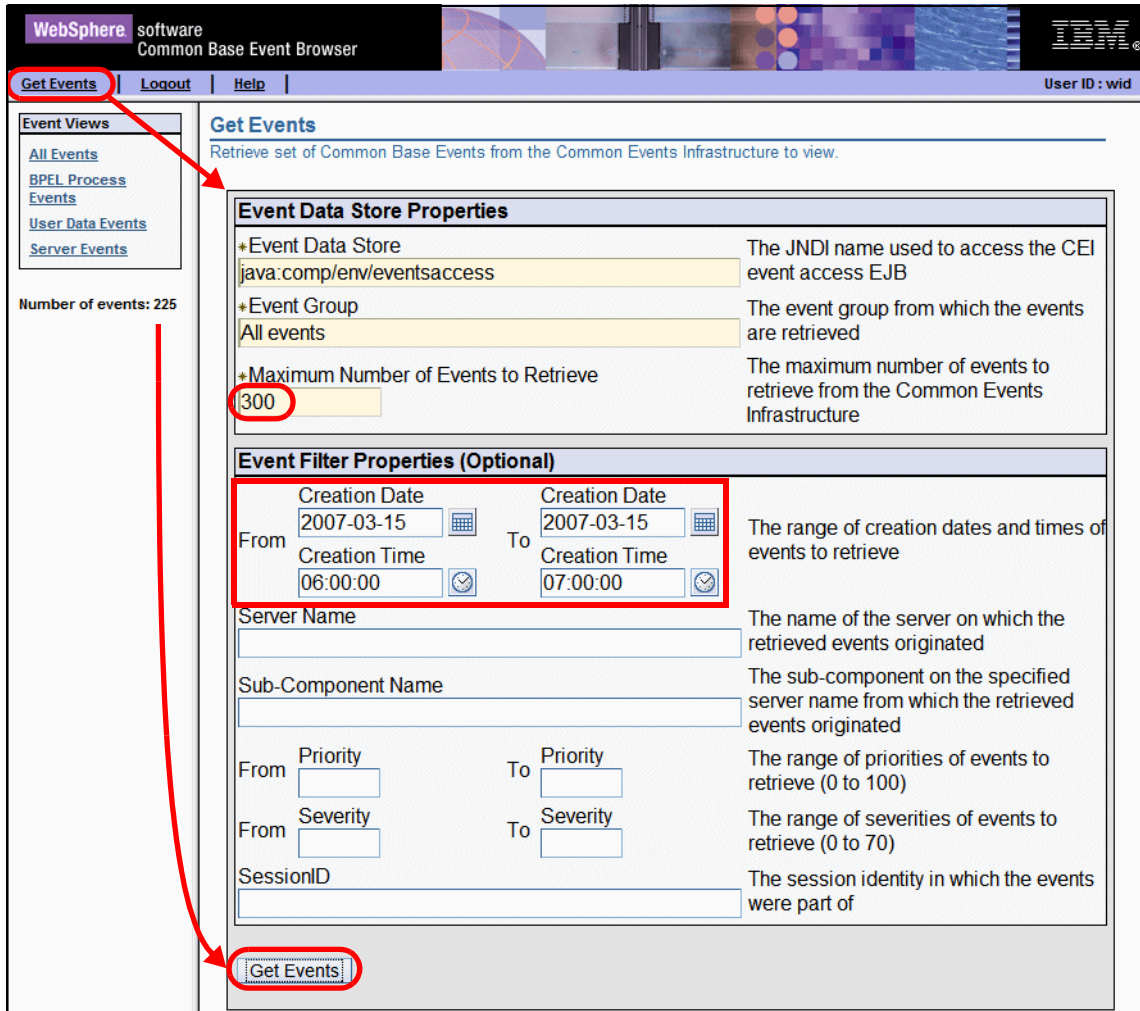

Figure 13-4 Common Base Event Browser: Get Events
- ▶ Click *Get Events* (at the top). Limit the number of events retrieved (default is 500) and possibly use a start and end time. Click *Get Events* (at the bottom). The number of events retrieved is displayed (Figure 13-4).